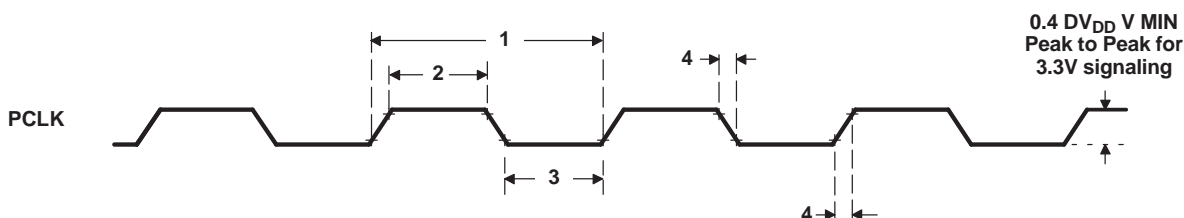

Figure 5-46. PCLK Timing
Table 5-42. Timing Requirements for PCLK^{(1) (2)} (see Figure 5-46)